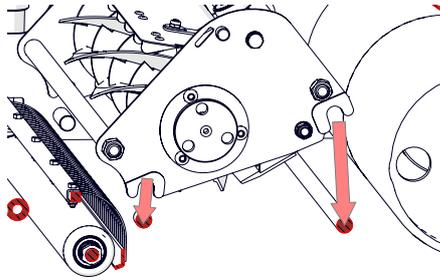

Fig.8E - Lower cassette onto tie-bars (cut-through).
6. To insert a cassette: Lift the cassette using the handle and lower the front slots of the cassette unit onto the front bearing studs (Fig.8E). Slowly lower the back end onto the back tie-bars.